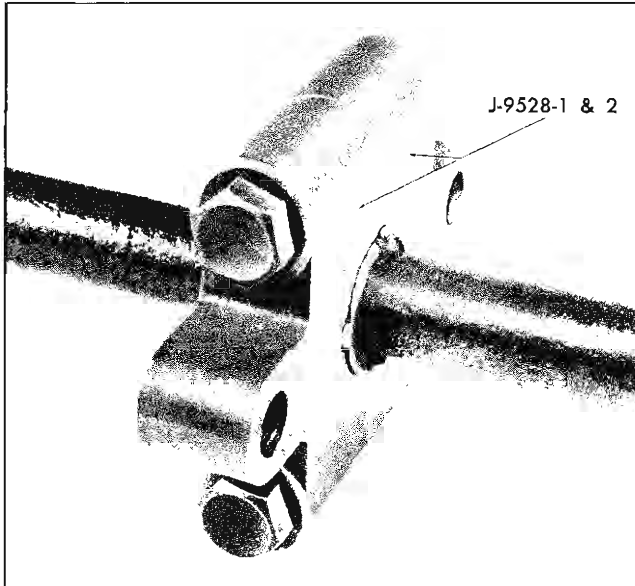

Fig. 4-23 J-9528-1 & 2 Installed on Shaft
2. Position half-shells on shaft and secure with J-9528-1 & 2 (Fig. 4-23). Tighten bolts securely.